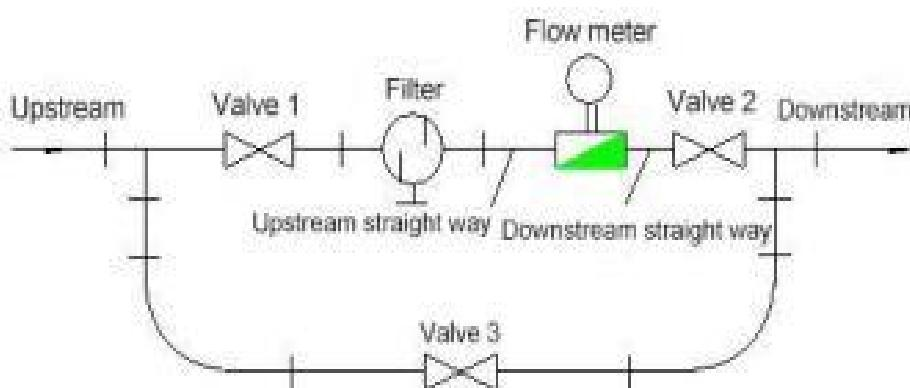

Fig. 11
- (1) The flow meter can be installed horizontally and vertically, and the fluid direction must be upward when installed vertically. The liquid should fill the pipe without air bubbles.
- (2) During installation, the liquid flow direction should be consistent with the direction of the arrow indicating the flow direction on the flowmeter housing. There should be at least a straight pipe section of 10 times the diameter at the upstream end, and a straight pipe section of no less than 5 times the diameter at the downstream end.
- (3) The flow meter should be far away from the external electromagnetic field. If it cannot be avoided, the necessary shielding measures should be taken.
- (4) In order not to affect the normal delivery of liquid during maintenance, a bypass pipeline should be installed at the place where the flow meter is installed (Fig. 11).